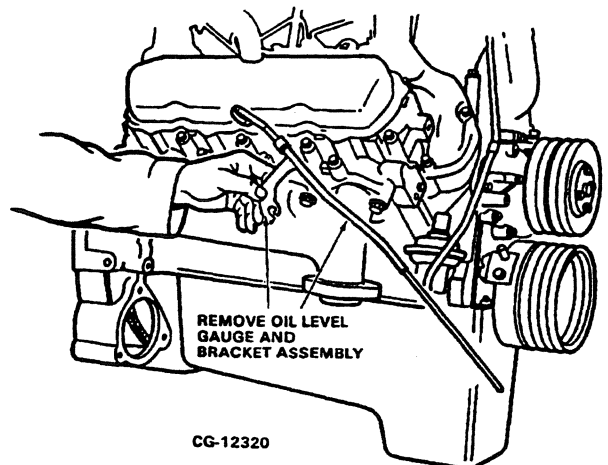

Figure 2.6. Remove Oil Level Gauge Assembly
b. Remove the oil level gauge tube assembly (with bracket) from the crankcase. Refer to Figure 2.6